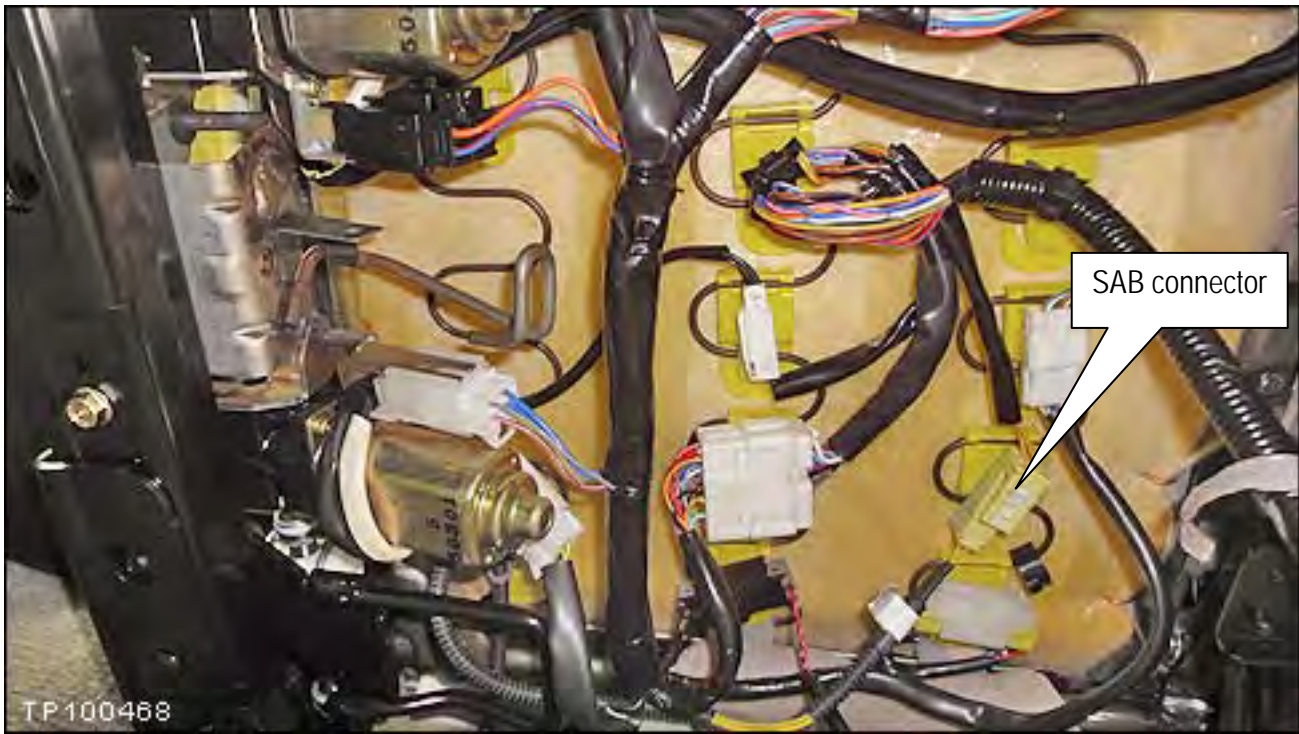

Figure 1b
1. Look under the seat and locate the Side Air Bag (SAB) connector shown in Figure 1b.